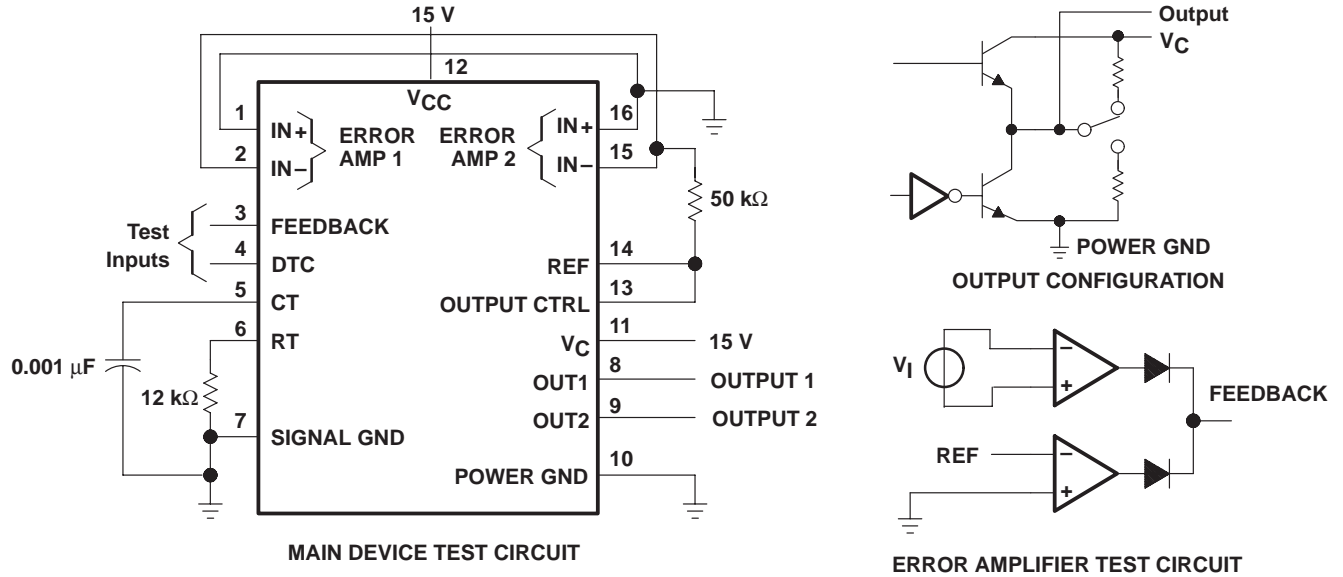

Figure 1. Test Circuits
**dead-time control section (see Figure 1) (see Note 2)**
**total device (see Figure 1) (see Note 2)**
**oscillator section,  $C_T = 0.001\ \mu\text{F}$ ,  $R_T = 12\ \text{k}\Omega$  (see Figure 1) (see Note 2)**